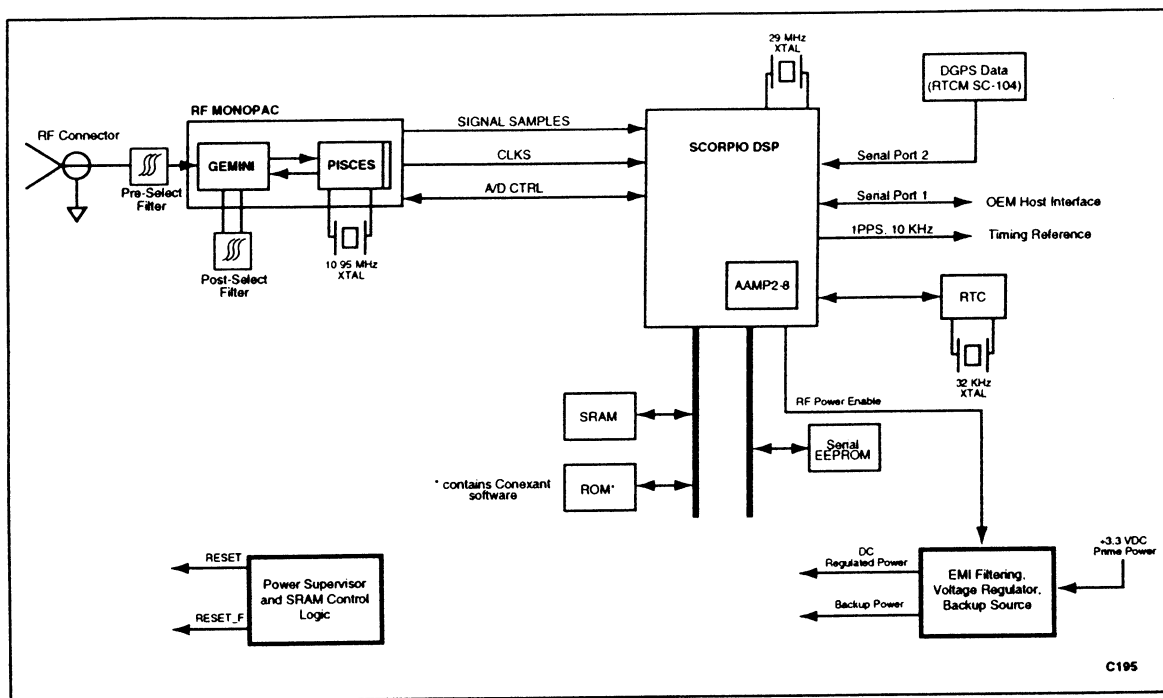

Figure 3. Jupiter LP Receiver Architecture
Receiver Architecture. The functional architecture of the Jupiter LP receiver is shown in Figure 3. The receiver design is based on the Conexant Zodiac chipset: the Gemini/Pisces MonoPac™ and the Scorpio DSP, which contain the required GPS functionality. The Gemini/Pisces MonoPac™ contains all the RF downconversion and amplification circuitry, and presents the In-Phase (I) and Quadrature-Phase (Q) Intermediate Frequency (IF) sampled data to the Scorpio device. The Scorpio device contains an integral microprocessor and all the required GPS-specific signal processing hardware. Memory and other external supporting components configure the receiver into a complete navigation system.